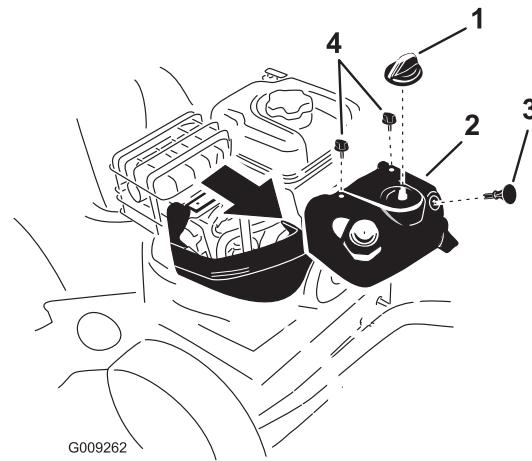

Figure 47
**Note:** To access the spark plug, you must first remove the upper snow hood (Figure 47).
1. Remove the choke knob and the ignition key (Figure 47).
2. Remove the 2 screws that secure the upper snow hood to the machine (Figure 47).